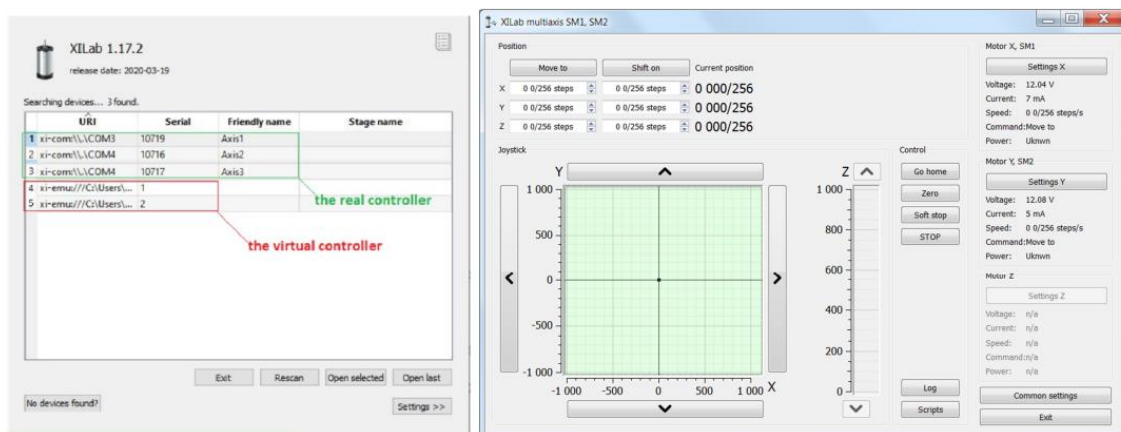

Figure 39. Motorized table interface
7. When the 3 controllers are assigned to the correct axis, you can use the X, Y and Z axis to move the sample under study in the desired location (*Figure 39*).
14. In the main window of 3-axis platform software XiLab (Figure 39), press on "Shift on" located at the top left corner of the window, second column. Under "Shift on", in the third row "Z axis" type "-100" instead of the first zero.